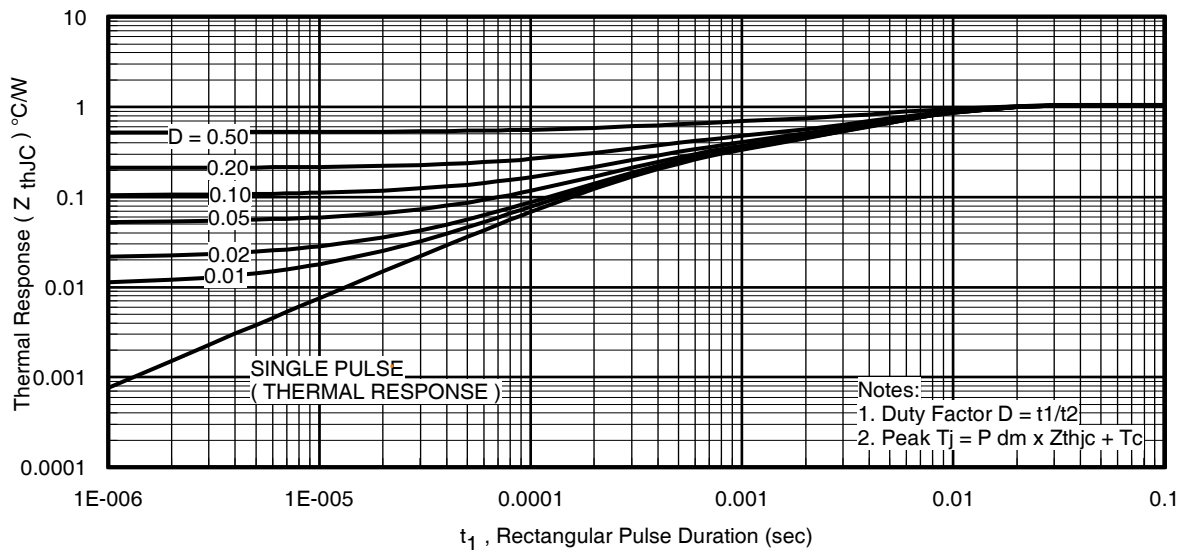

Fig 11. Maximum Effective Transient Thermal Impedance, Junction-to-Case
- ① Repetitive rating; pulse width limited by max. junction temperature. (See fig. 11).
- ② Limited by T_{Jmax} ; starting $T_J = 25^\circ\text{C}, L = 0.399mH$
$Z_{thJC}(D, t_{av})$ = Transient thermal resistance, see figure 11)